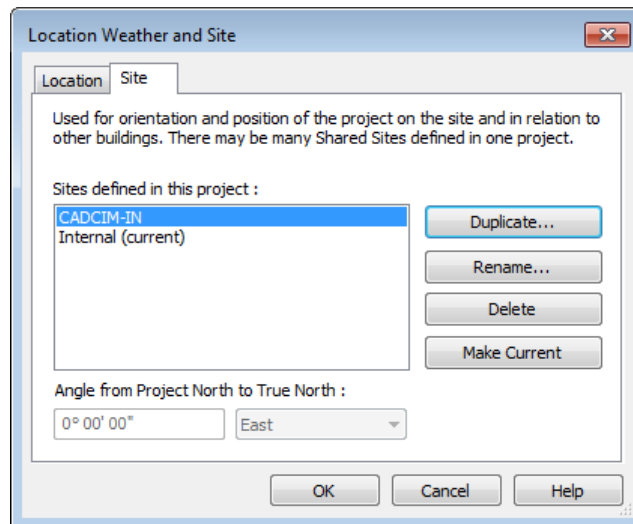

Figure 3-42 CADCIM-IN selected in the Sites defined in this project list box of the Site tab
3. Enter **CADCIM-IN** in the **Name** edit box and then choose the **OK** button; the **Name** dialog box closes and the name entered is displayed and highlighted in the **Sites defined in this project** list box of the **Location Weather and Site** dialog box, refer to Figure 3-42.